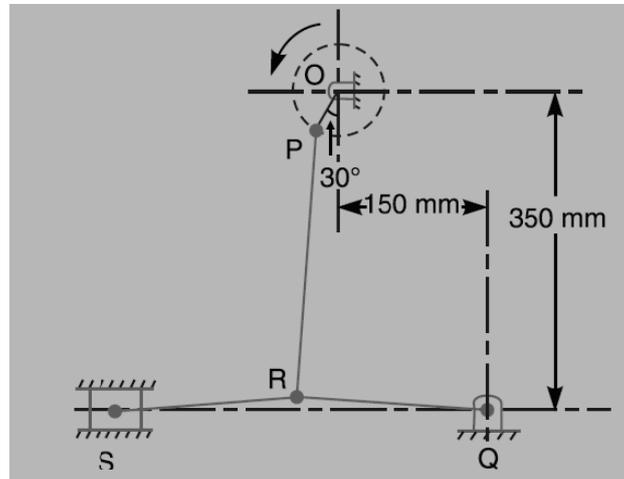

Fig.4
- (a) A toggle press mechanism, as shown in Fig.4, has the dimensions of various links as follows : $OP = 50$ mm ; $RQ = RS = 200$ mm ; $PR = 300$ mm. Find the velocity of S when the crank OP rotates at 60 r.p.m. in the anticlockwise direction. If the torque on P is 115 N-m, what pressure will be exerted at S when the overall efficiency is 60 percent.